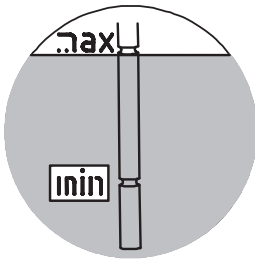

Figure 22: Checking the oil level with a dipstick
4. **Gear units with an oil level tank:** The oil level must be checked in the oil level tank with the aid of the dipstick plug (thread G1 1/4). The oil level must be between the upper and lower marking when the dipstick is fully screwed in (see Figure 22). Top up the oil level with the relevant type of oil as necessary. These gearboxes may only be operated in the configuration stated in Section 6.1 "Configurations and maintenance".